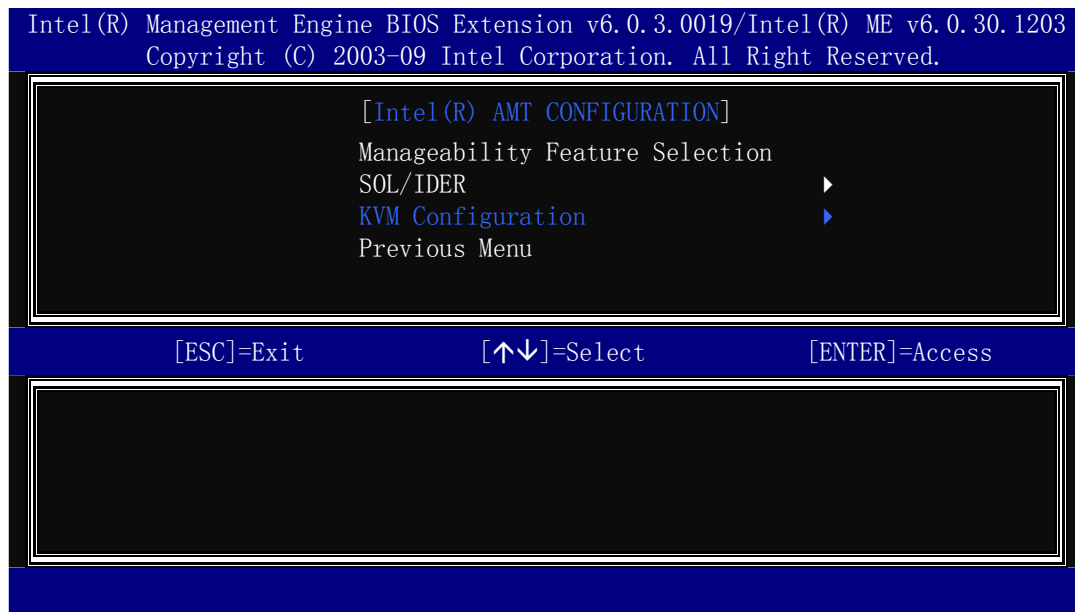

Figure A-5: Select KVM Configuration
Step 6: Select **KVM Configuration** and press **Enter**. (Figure A-5)